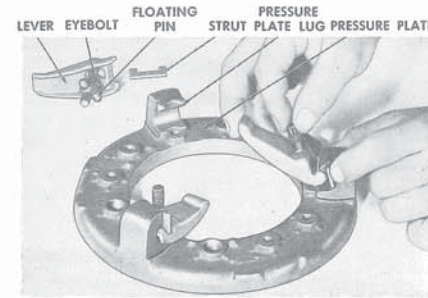

Fig. 26. Removing and Installing Release Levers
**Remove Release Levers.** Grasp the lever and eyebolt between thumb and fingers. With other hand, raise strut, tilt outward, and lower strut as shown in Figure 26. Then maneuver lever and eyebolt from strut and lug.
**Install Release Levers.** Coat eyebolt base and floating pin with a thin layer of grease. Install pin in eyebolt and position assembly in lever socket. Place strut in lug ridge, grasp eyebolt and lever between thumb and fingers, and install in pressure plate lug as shown in Figure 26.